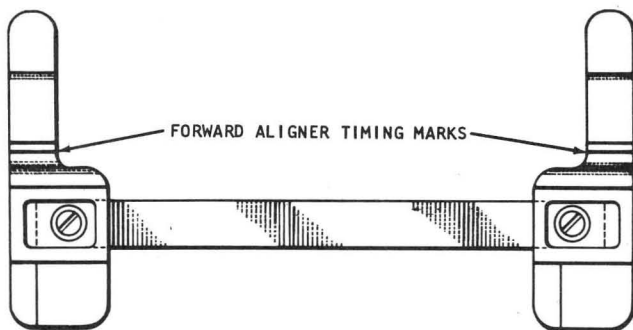

Figure 3-28. Gage 608183 Timing Mark
4. Continue cranking machine and check that card finishes forward aligning to within .005" of forward aligner timing marks on gage at 351° (Figure 3-28). This times forward aligner correctly.
2. Place cards in hopper; block clutch at 300°, and crank machine one complete cycle to 351°. Remove block from clutch. Adjust forward aligners so trailing edge of card is against each aligning surface of forward aligners, and leading edge of card is within .005" of forward aligner timing marks on gage at 351° (Figure 3-28).